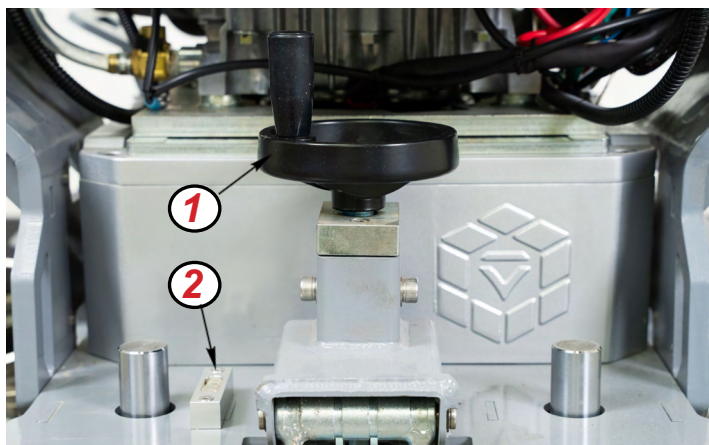

Figure 1
4. Level the machine using the Leveling Hand Wheel (1) and the Bubble Level (2) [Figure 1].